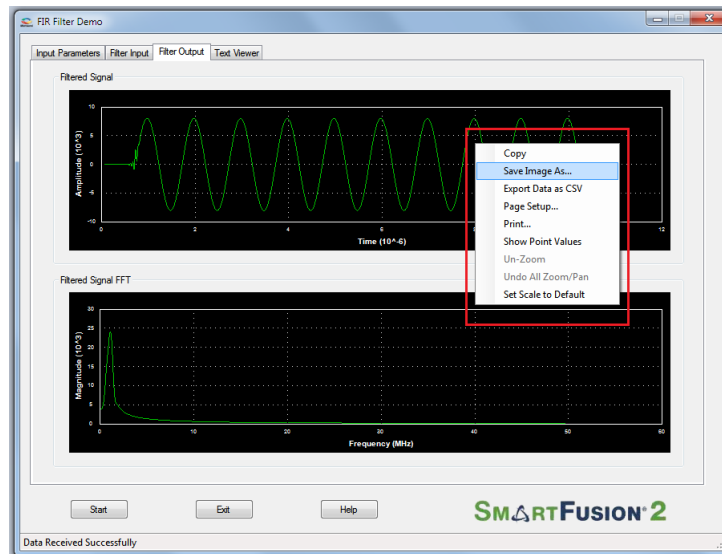

Figure 1-15 • Filtered Signal: GUI options
- Right-click on the window, it shows different options as shown in Figure 1-15. The data can be copied, saved, and exported to CSV plot for analysis purpose. Page setup, print, show point values, zoom, and set scale are set to default.